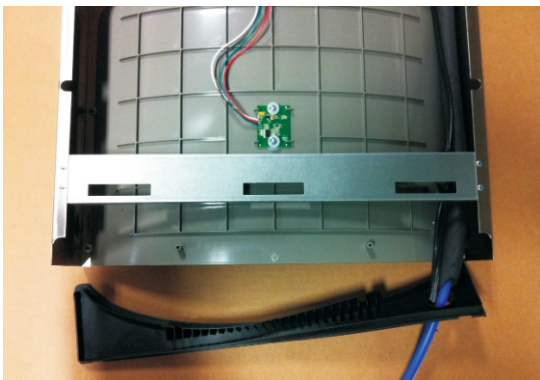

FIGURE 5
- 5) Feed power cord & 1/4" water line through hole in tower/basin gasket (See Fig 5).